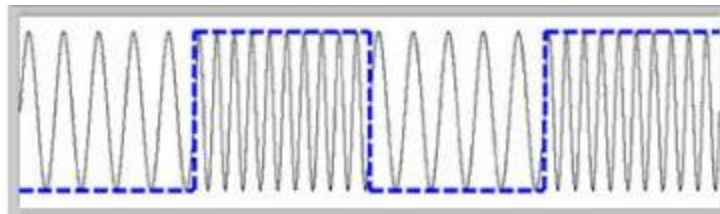

Figure 2: FM waveform
Frequency Modulation (FM) is an analog modulation technique in which the instantaneous frequency of the carrier signal varies according to the amplitude of the modulating signal, while the carrier amplitude remains constant. The extent of frequency variation is determined by the frequency deviation. Increasing the deviation increases the bandwidth occupied by the FM signal, as shown in Figure 2.